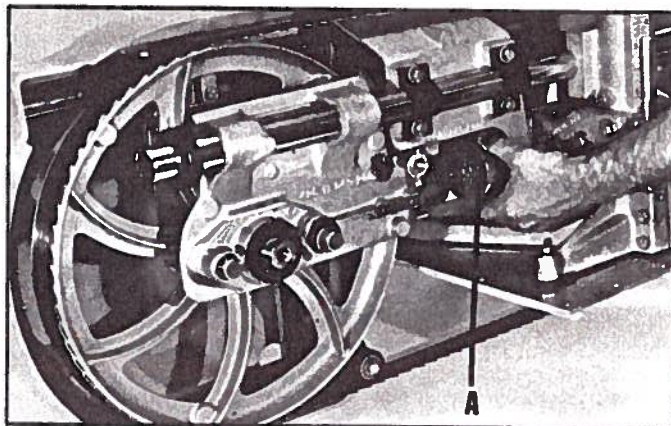

Fig. 18
4. Install blade on both wheels. Turn blade tension nut (A) Fig. 18, clockwise by hand to pre-tension the blade.